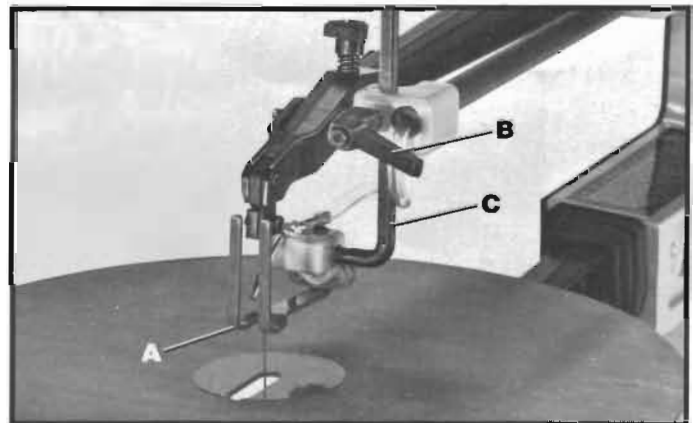

Fig. 23
The holddown (A) Fig. 23, should be adjusted so it contacts the top surface of the work being cut by loosening lock handle (B) and moving holddown rod (C) up or down. Then tighten lock handle (B). **NOTE:** Handle (B) is spring loaded and can be repositioned by pulling out the handle and repositioning it on the serrated nut located underneath the hub of the handle.